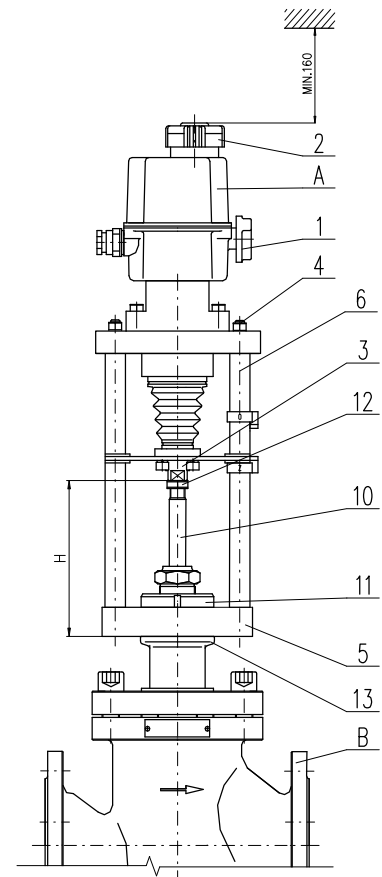

Fig.4
**Mechanic connection with the flange - (Fig. 4)**